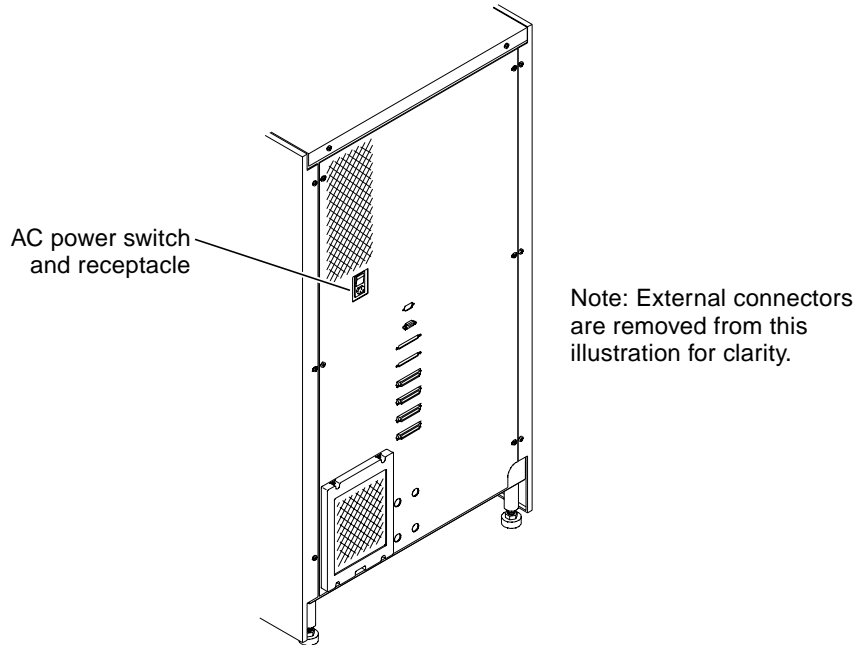

FIGURE 2 Library Power Switch and Receptacle
3. At the back panel, set the power switch to the “O” (off) position (FIGURE 2).